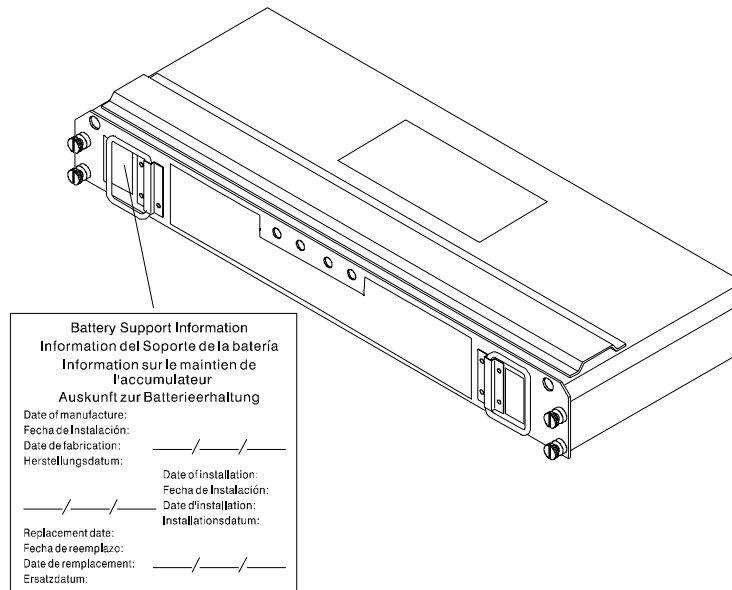

Figure 31. Checking the battery service date
2. Check the Battery Support Information label, as shown in Figure 31 on page 29.